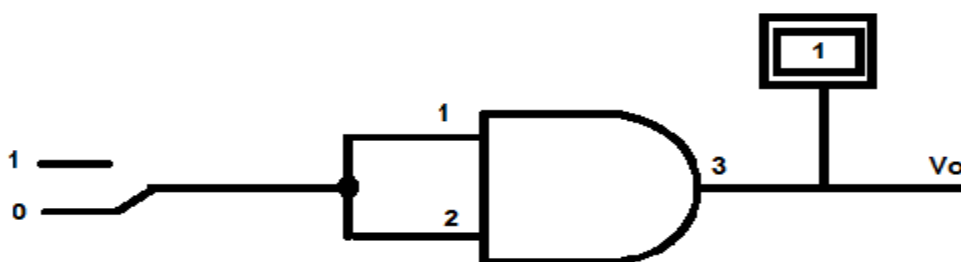

Fig.2
b. Connect the circuit of Fig.2 Using LogicWorks. Which rule does this circuit illustrate?